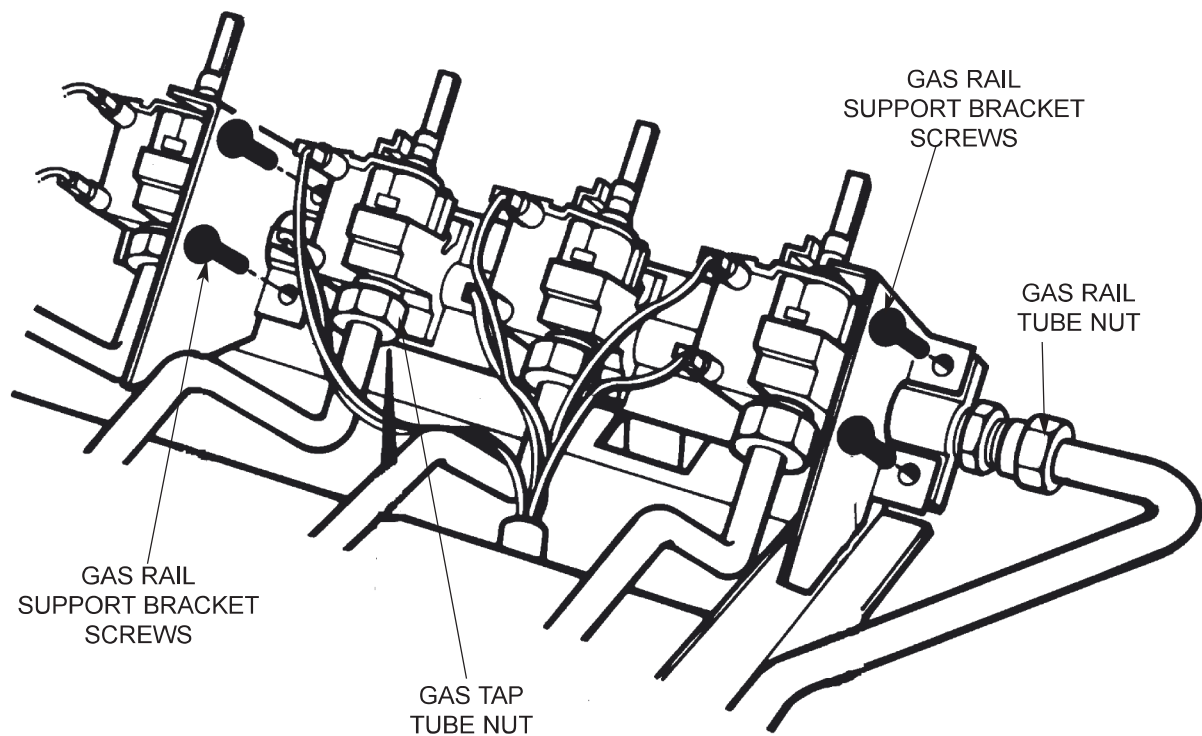

Fig. 15
5. Disconnect gas rail tube and remove 4 screws from gas rail support brackets. (See Fig. 15).